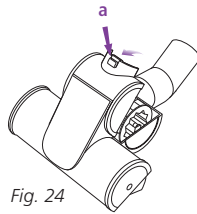

Fig. 24
- 1 Slide the locking latch (a) forward and gently tilt brush housing upward to open. (Fig. 24)